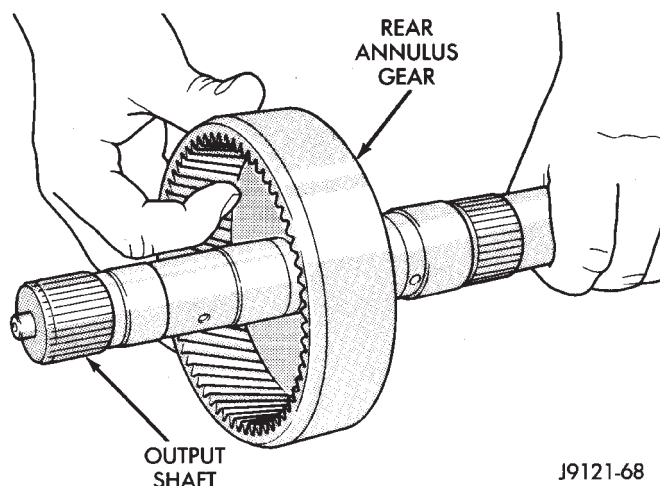

Fig. 79 Installing Rear Annulus Gear On Intermediate Shaft—46RH
(3) Install rear annulus gear on intermediate shaft (Fig. 79).